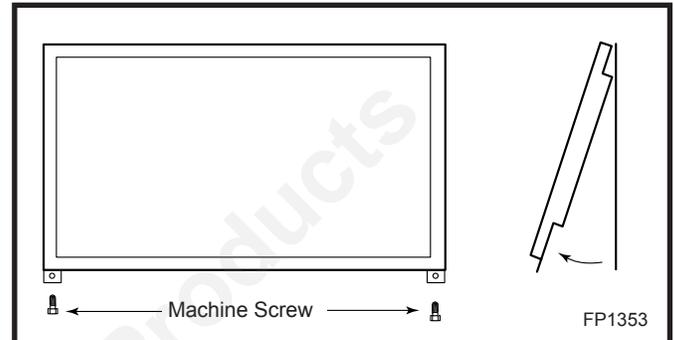

Fig. 17 Remove glass frame.
1. Remove two (2) screws at the bottom of the frame. (Fig. 17)